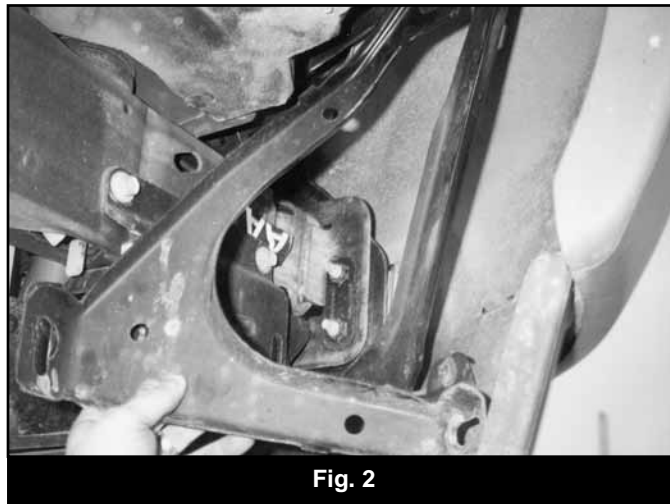

Fig. 2
8.  **2001 models & newer only:** Remove the side bumper support braces and retain factory hardware. (Fig. 2)